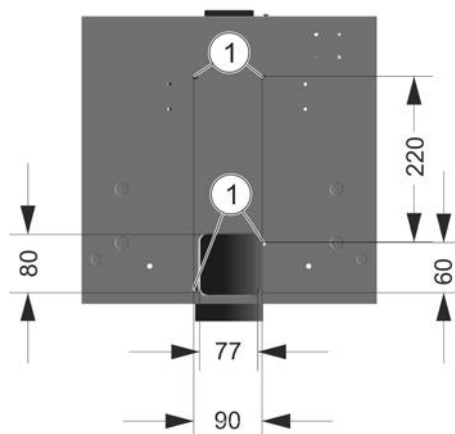

Fig. 15: Assemble bracket
1. Screw support bracket onto the console. Refer to the assembly bores of the console, Fig. 15.